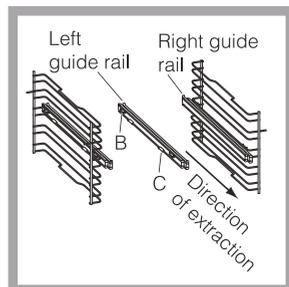
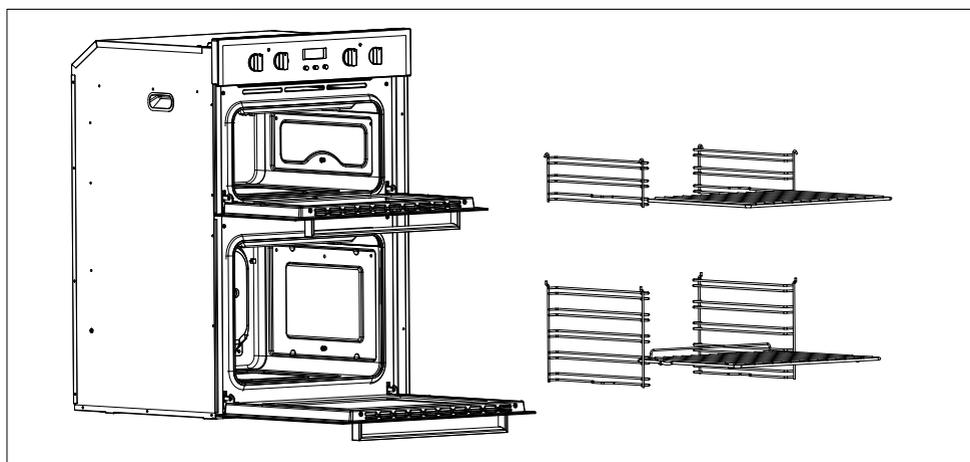

Figure 1.
Figure 2.
- Remove the side racks (see Fig.1 and Fig.2)
- Choose which shelf to use with the telescopic runner. Pay attention to the direction in which the runner is to be extracted, position joint 'B' and joint 'C' on the frame (see Fig.1).
- Finally, re-fit the side racks (See Fig.1 and Fig.2)